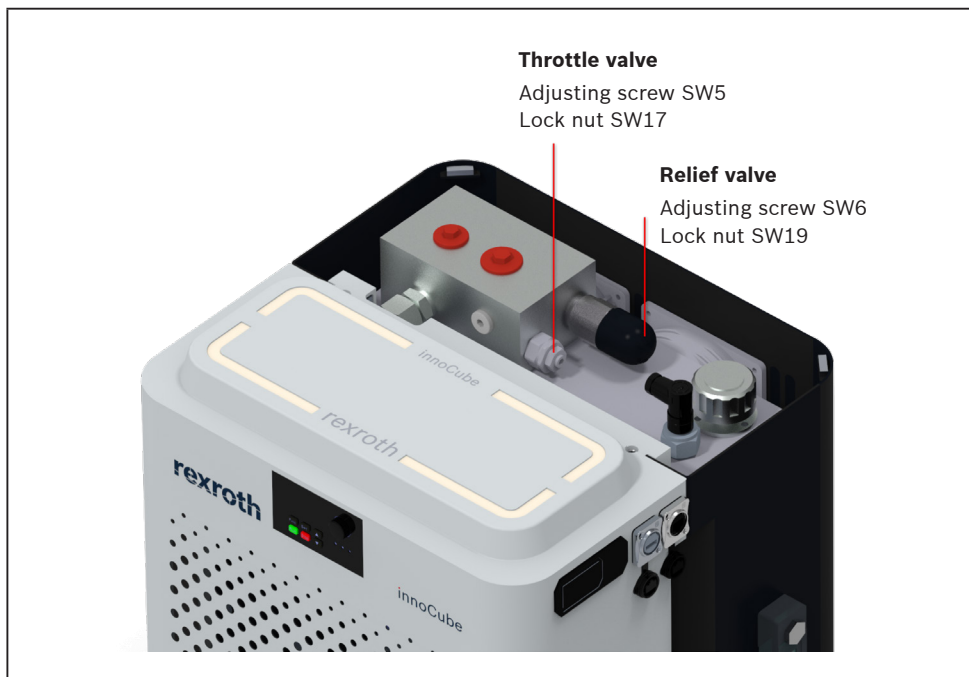

Fig. 60: Description of relief valve and throttle valve positions
6. Adjust the throttle valve clockwise and observe the actual motor speed of the innoCube (parameter D0.01; if using IndraWorks DS, see Fig. 22: Overview of the Sytronix FcP 5020 dialog; feedback can also be sent to the host computer via analog or communication for viewing). When the speed reaches the minimum motor speed requirement shown in Fig. 60, the throttle valve adjustment is complete. Likewise, the lock nut of the throttle valve must be tightened;